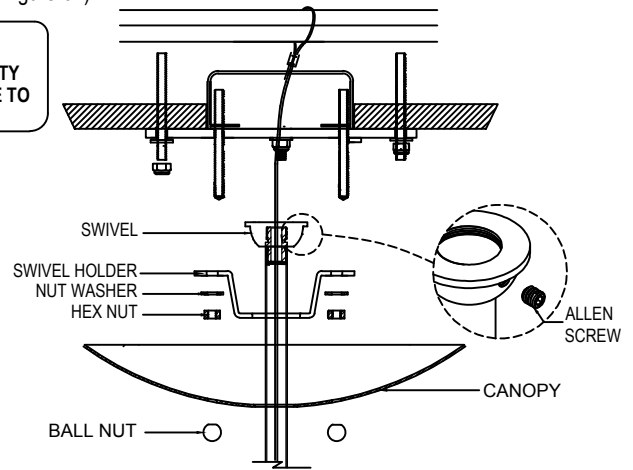

FIGURE-02
2. Determine the overall desired length of the fixture. Assemble the adjustable stems one at a time onto the fixture leads. Tape the end of the leads to a stiff wire (coat hanger) to aid in pulling them through the stems. Place the canopy and swivel holder onto the stem respectively, then assemble the swivel on the stem and secure it with allen screw. (See Figure-02)
3. Attach the swivel holder to the modified heavy duty strap. Make sure to fit the groove of the swivel ball to the tongue of the swivel holder. Then attach the SAFETY CABLE to the building or structure or brace. (See figure-02)